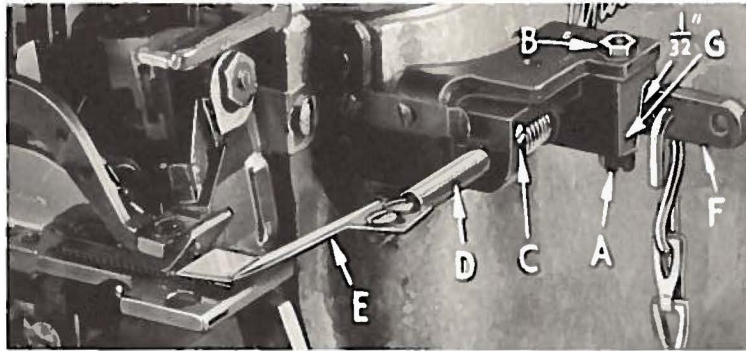
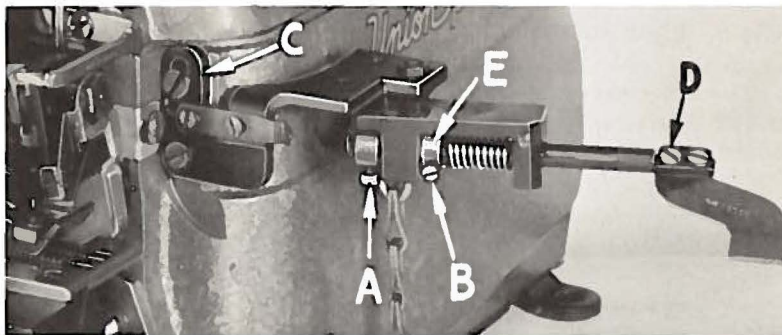

Fig. 17
Fig. 18
Styles 39500 T, U are equipped with an auxiliary pressure plate assembly (Fig. 17) which operates in conjunction with the presser foot.
in either direction about 180° from operating position and tighten screw (B, Fig. 18).
3. Adjust the shaft (D) laterally so that the pressure plate (E) locates centrally over the differential feed dog. Loosen screws (A and B, Fig. 18) to do this. Making this adjustment will release the spring tension on the pressure plate. To re-gain the tension, swing the pressure plate out and turn the shaft (D, Fig. 17)
4. With the differential feed dog down below the surface of the throat plate, and the pressure plate resting on the throat plate with the maximum pressure the spring will allow, there should be about 1/32 inch clearance between the operating lever (F, Fig. 17) and the hinge block (G). To make this adjustment loosen screw (A, Fig. 18) and move lever to desired position.
5. With the differential feed dog at its highest point of travel, raise or lower the mounting bracket (C, Fig. 18) so that the auxiliary pressure plate is parallel with feed dog teeth.
6. Adjust the pressure plate in or out towards presser foot, maintaining it parallel with the feed dog, so that there is sufficient clearance between the end of plate and presser foot to permit free passage of the thickest part of the top ply being sewn. Use the two screws (D, Fig. 18) for this adjustment.
7. There are two spring anchoring holes in collar (E, Fig. 18) which may be used for increasing or decreasing spring tension on auxiliary pressure plate.
8. A chain is provided for raising the auxiliary pressure plate in conjunction with the presser foot. Couple this chain from the operating lever (F, Fig. 17) to the presser foot lifter chain so that when the foot lifter treadle is depressed, the presser foot raises before the pressure plate. The chain is normally attached to the operating lever at the inside hole.